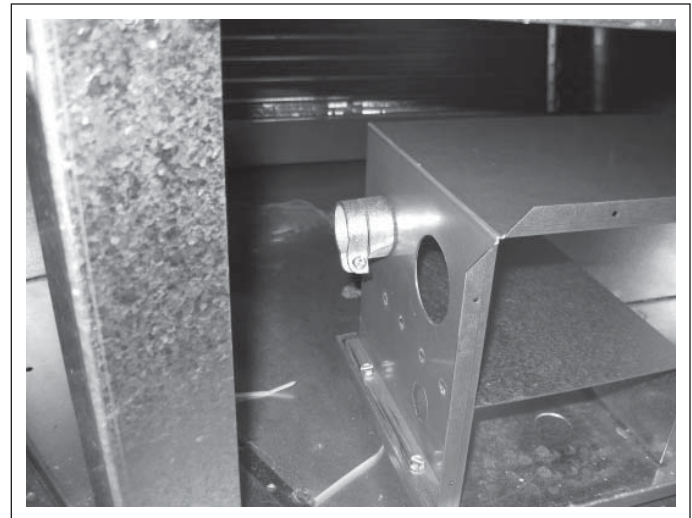

Figure 3.
6. Install one of the 3/4” diameter FMC connectors to the top, rear, conduit opening in the bottom power entry box. Angle the connectors tightening screw up towards blower to allow access when next connector is installed in front of it. (see Figure 3)